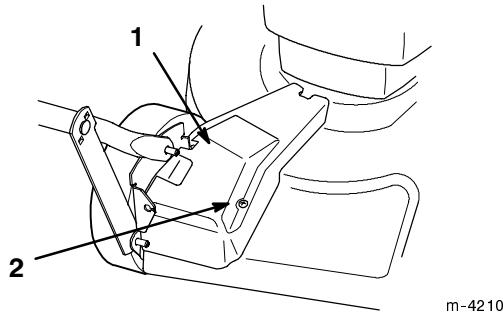

Figure 29
1. With the engine off, remove the bolt that secures the belt cover (Fig. 29) to the lawn mower housing.